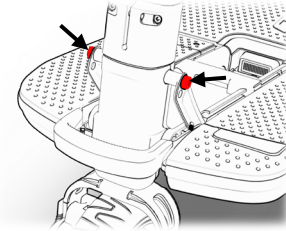

Figure 26 Steering Rod angle adjustment screws
1. ATTO must be in the opened position in order to adjust the tiller angle. Once opened, locate and release the two Allen (hex) screws (see highlighted in red in Figure 26). Make sure you keep holding the tiller in upright position (you must hold the tiller to prevent it from falling while releasing the screws).